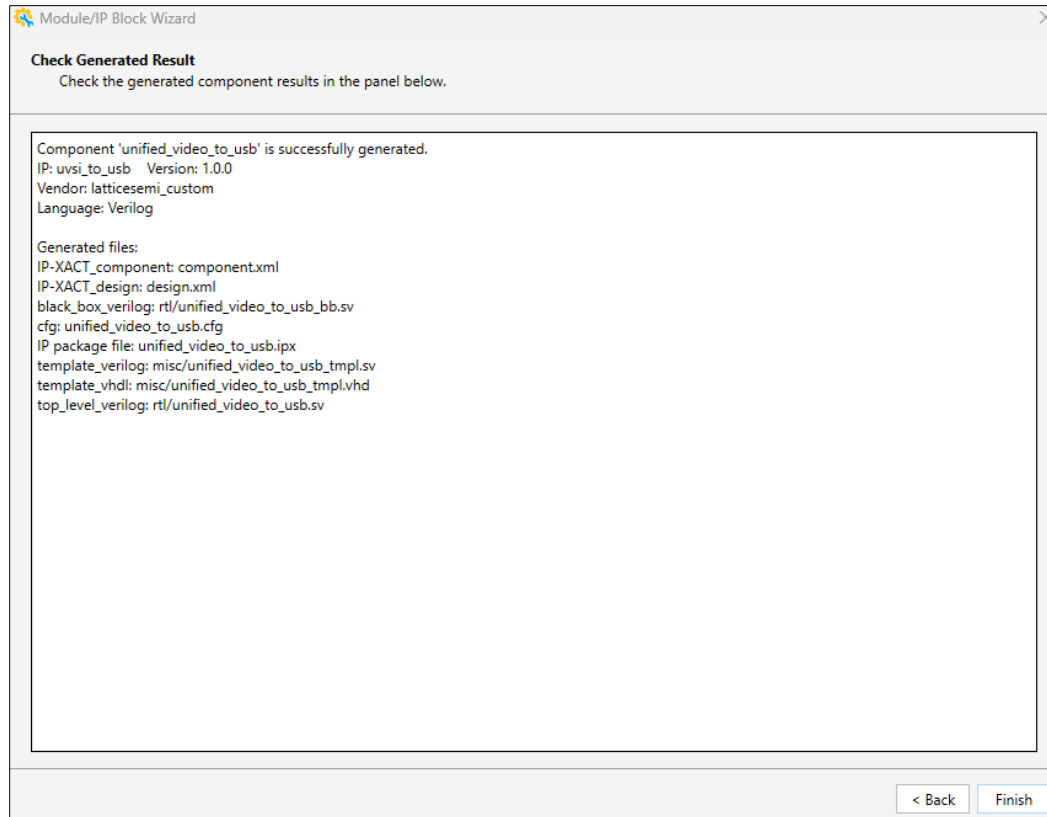

Figure 7.29. Video to USB Check Generated Result Window
4. After the generation is completed, click **Finish** in the **Check Generated Result** window (Figure 7.29).